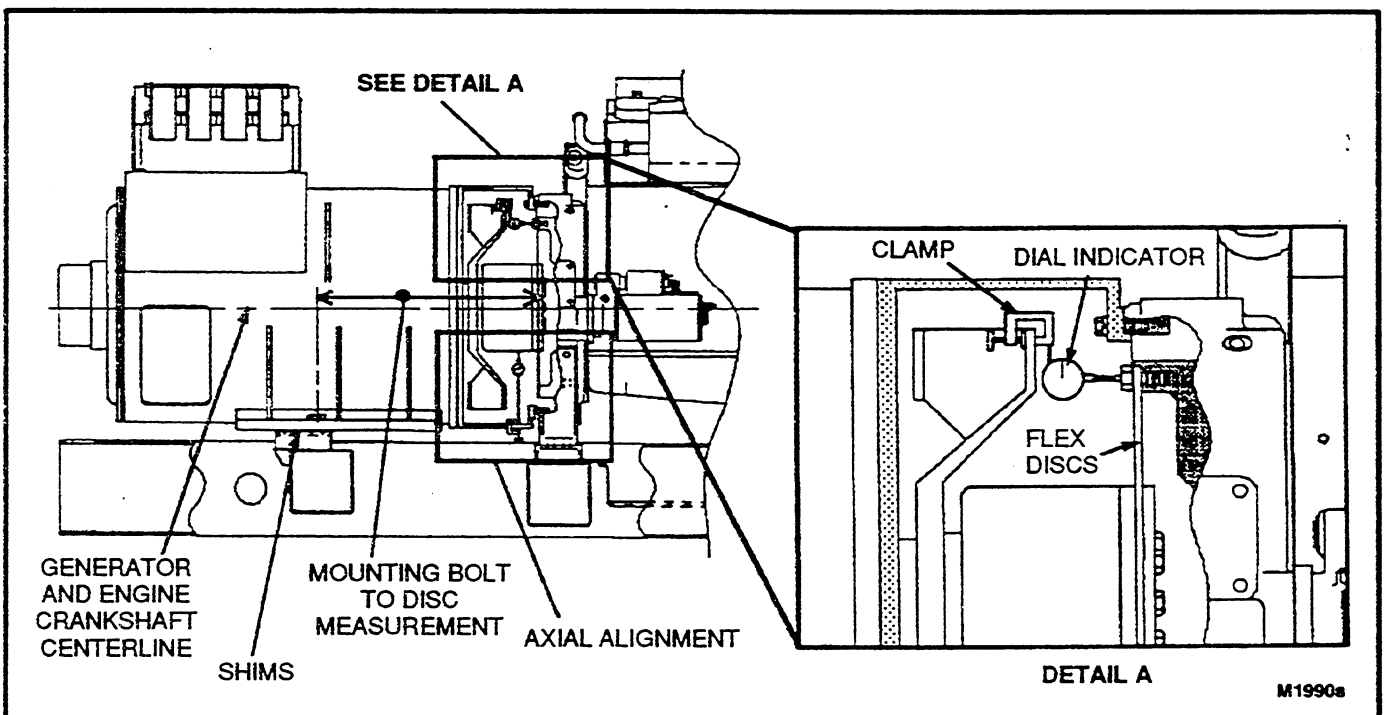

FIGURE 3-3. ANGULAR ALIGNMENT MEASUREMENT
Fasten a dial indicator to either the generator shaft or the cooling fan with the sensing point resting on the capscrew head or the flat surface of the drive disc at the bolt circle diameter, see Figure 3-3. Bar the engine over in a clockwise rotation as viewed from engine flywheel. Do not allow it to roll back on compression at the end of the travel of each reading. It is unnecessary to zero the indicator since the total indicator reading (T.I.R.) of the deflection measurement to the bolt heads is what is required. T.I.R. will be the sum of the maximum positive and negative dial indicator readings as the engine completes one revolution.
2. Measure the distance from the generator side of the flex discs to the center of the generator mounting bolt, refer to Figure 3-3. (For example; a HC6 Frame's distance is 28.4".)